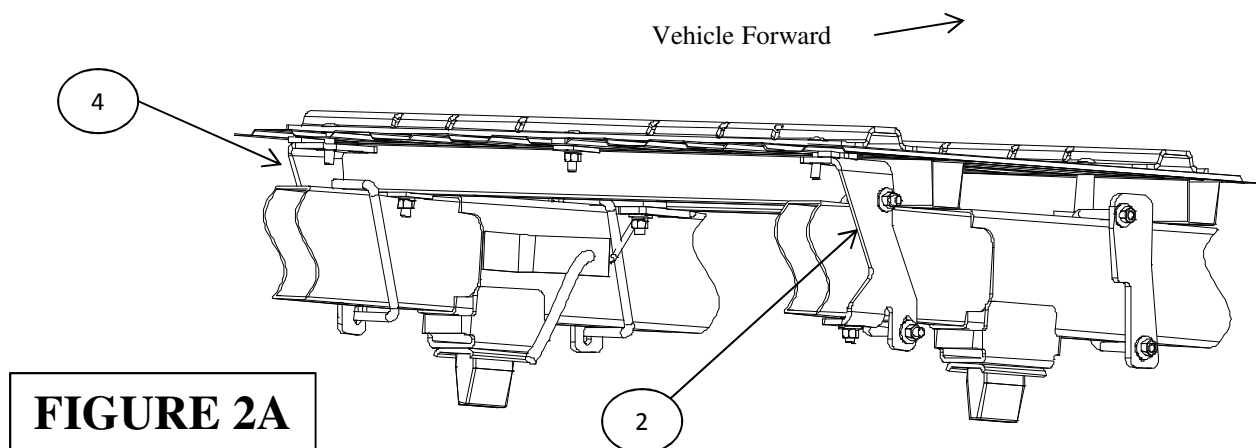
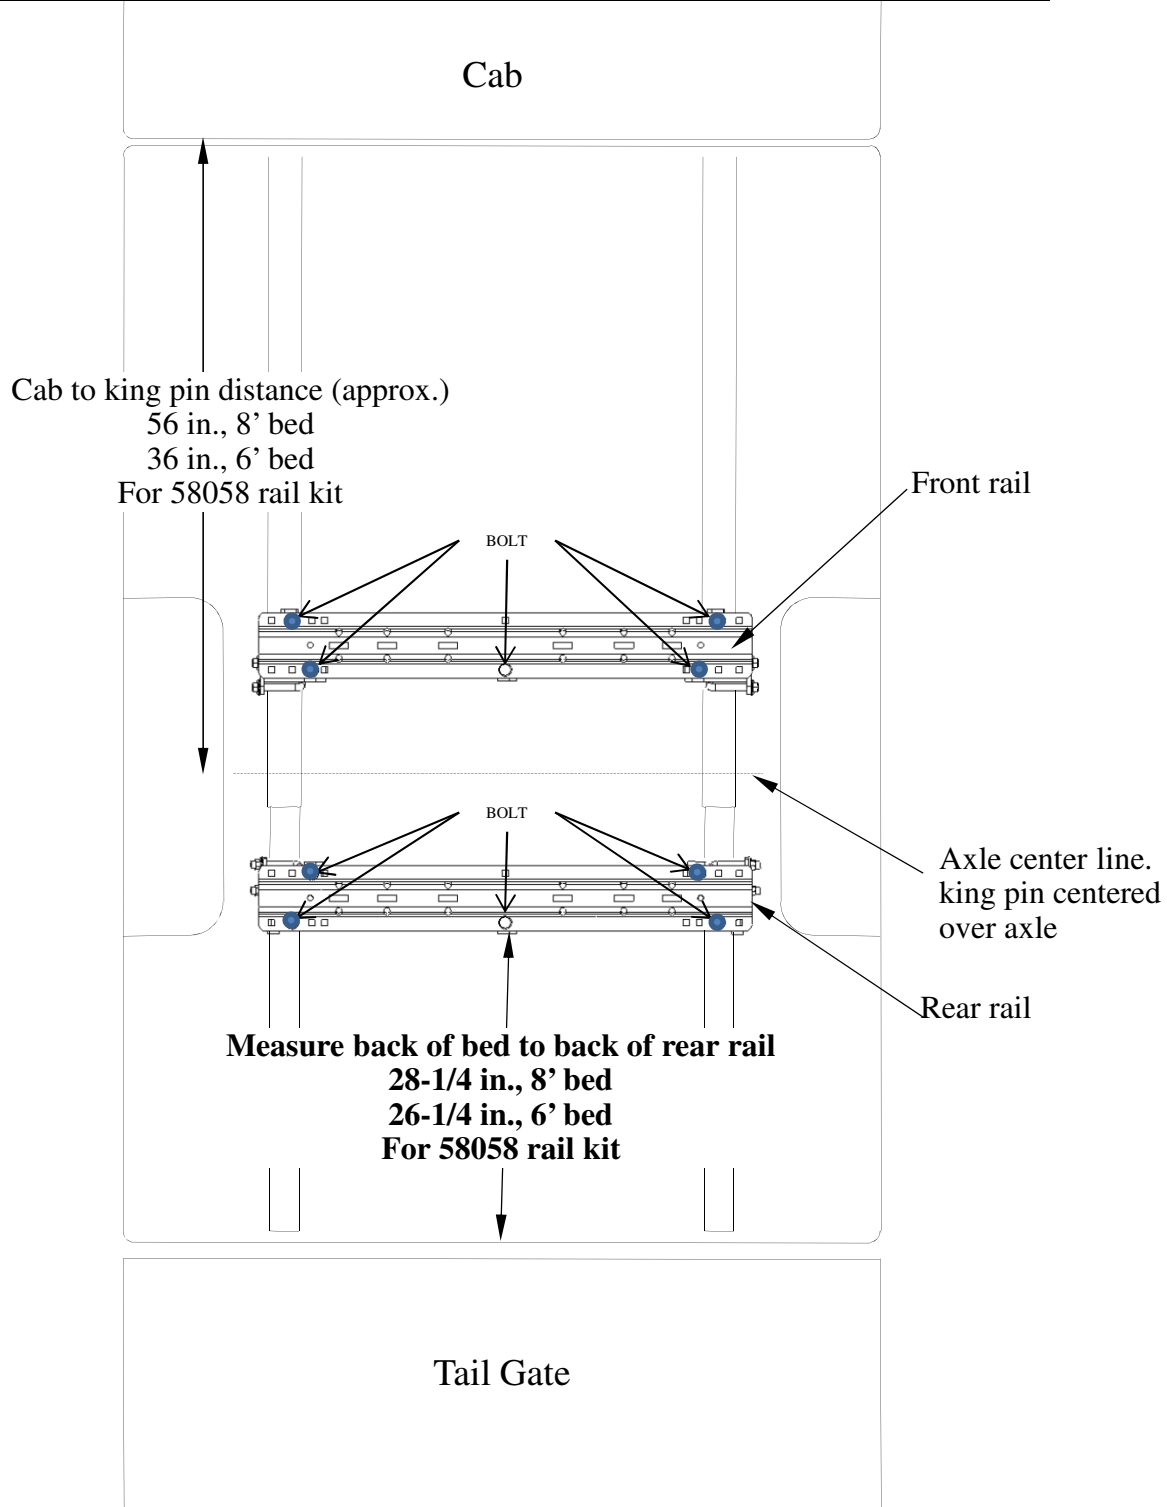

FIGURE 2A
Figure 3A
20. Install brackets (2) and (4) in reverse positions. See Figure 2A.
21. Put rear left hand bracket (2) on the outside of the right rear frame rail and rear right hand bracket (4) on the outside of the rear left hand frame rail.
22. Follow steps 1 – 19. For bed drilling locations see Figure 3A on page 5.